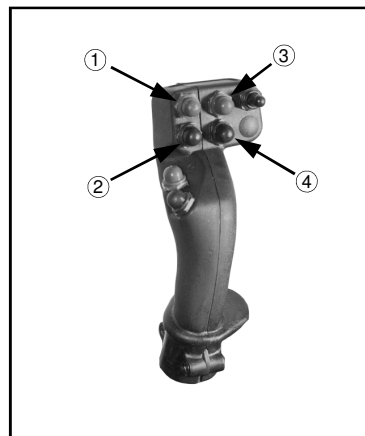

FIG 5.16
To increase or decrease the angle of each individual boom level, depress the left or right “GRAY” (UP) or the left or right “RED” (DOWN) buttons on the hydrostatic drive handle (fig. 5.16, items 1 thru 4). While depressed, these buttons activate the level cylinders connecting either boom to the transom (fig. 5.15).